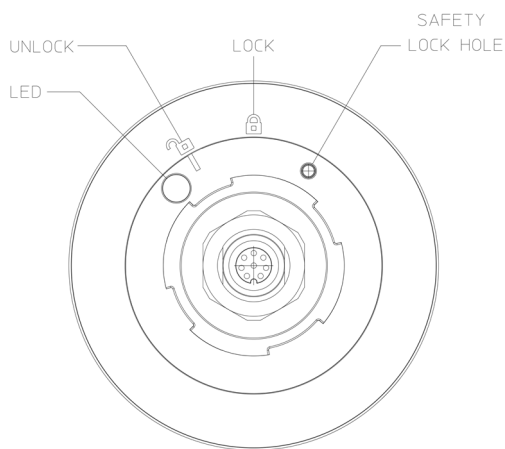

FIGURE 21: ROOF MOUNT INSTALLATION STEP 4 (BOTTOM SIDE OF THE LT-300 GNSS RECEIVER)
Step 4: Please refer to *NMEA 0183 Baud Rate* on page 20 for details on NMEA 0183 baud rate settings and *LED Color Description* on page 20 for LED color description. Figure 21 is illustrating the bottom side of the LT-300 GNSS Receiver; highlighting the 2-color LED, the locking symbols, and the safety lock hole.